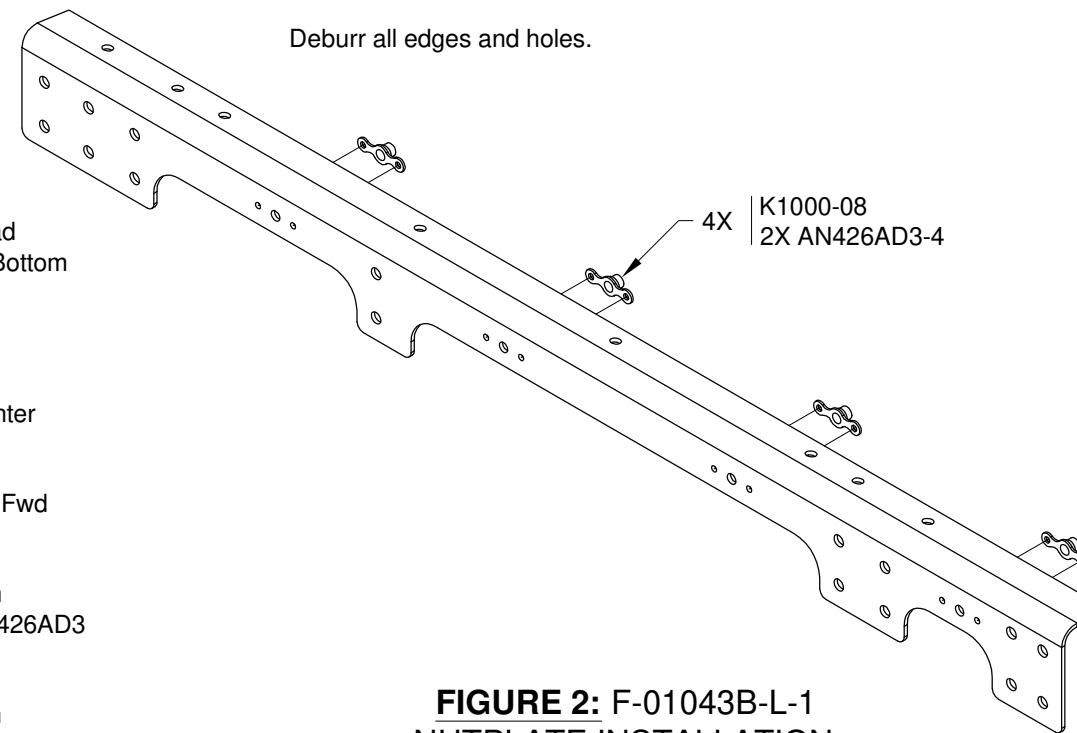

FIGURE 2: F-1043B-L-1 NUTPLATE INSTALLATION
Machine countersink the nutplate attach holes in the web of the fwd fuselage bulkheads to fit the head of an AN426AD3 rivet. See Figure 2.
Step 8: Remove the F-1049A-L & -R, F-1049B-L & -R, F-01049C-L-1 & -R-1, and F-1049D-L & -R Fwd Fuselage Floor Ribs. See Page 28-5, Figure 2.
Dimple all of the #30 holes in all of the F-1049 Fwd Fuselage Floor Ribs EXCEPT the holes in the forward and aft tabs and the most forward hole in the upper flange. See Page 28-5, Figure 2.